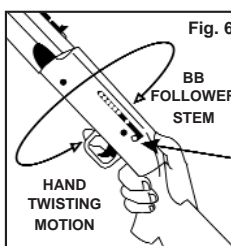

Fig. 6
- With a hand twisting motion, shake and twist the air gun until ALL of the BBs are out of the visual magazine (Fig. 6).